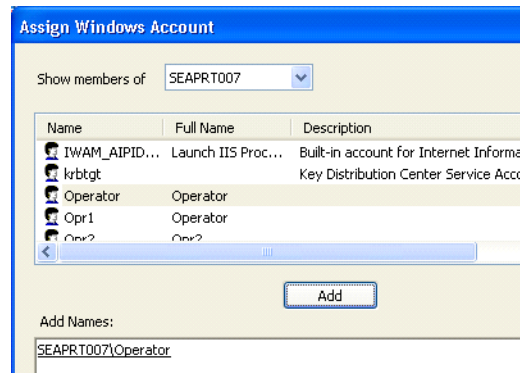

Figure 36. Assign Windows Account Dialog Box
- d. Select **Domain** in the **Show members of** drop-down menu and select the user **Operator** in the list. See Figure 36.